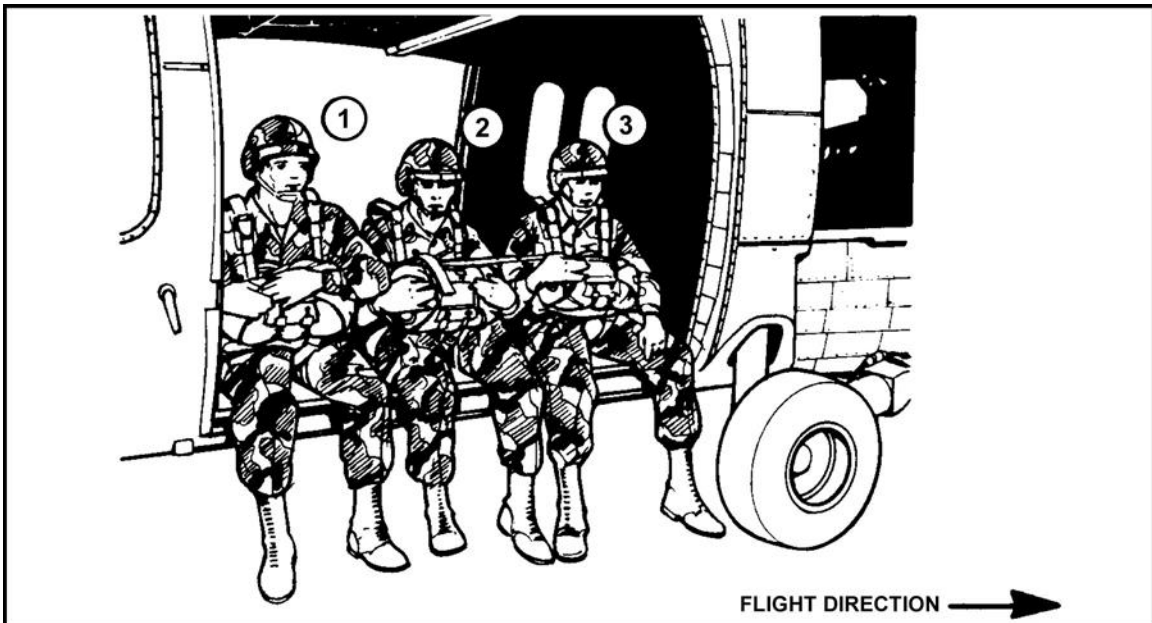

Figure 17-15. Parachutists (right door) with safety belt secured.
(3) Numbers 1 and 3 pass the running ends of their safety belt to number 2, who fastens the belt and removes excess slack (Figure 17-15).